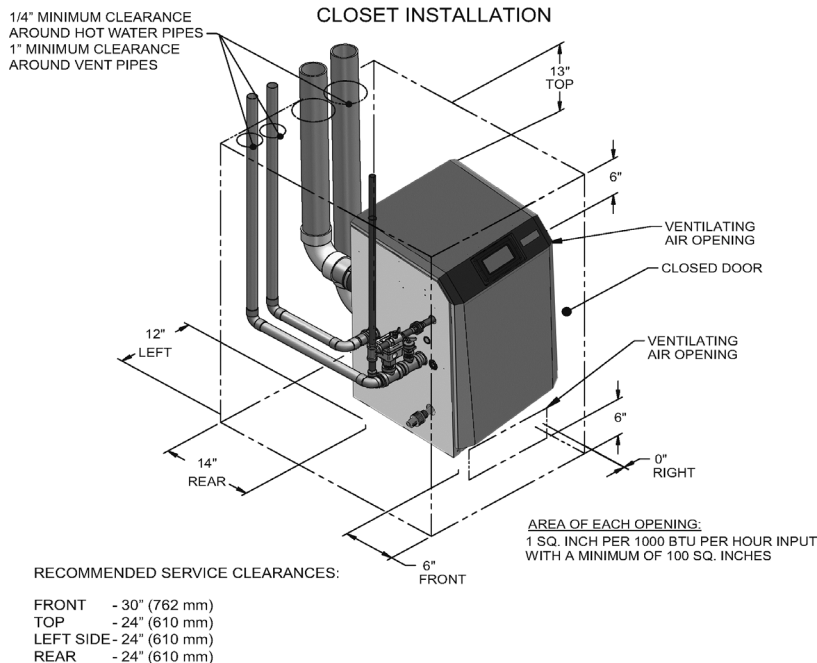

Figure 2. Closet Installation - Minimum Required Clearances
A closet is any room the water heater is installed in which is less than 86 cubic feet for XWH 150 models, 106 cubic feet for XWH 200 models, 120 cubic feet for XWH 285 models, 165 cubic feet for XWH 400 models, 191 cubic feet for XWH 500 models, 223 cubic feet for XWH 600 models, 247 cubic feet for XWH 700 models and 278 cubic feet for XWH 800 models. An alcove is any room which meets the criteria for a closet with the exception that it does not have a door. For closet and alcove installations as shown in below Figures 2 & 3, CPVC vent material must be used inside the structure. The ventilating air openings shown in Figures 2 & 3 are required for this arrangement. Failure to follow this warning could result in fire, personal injury, or death.
1. No air ventilation openings into the equipment room are needed when clearances around the XP water heater are at least equal to the SERVICE clearances shown in Figure's 2 and 3. For spaces that do NOT supply this clearance, provide two openings as shown in Figure 2. Each opening must provide one square inch free area per 1,000 Btu/hr of water heater input.